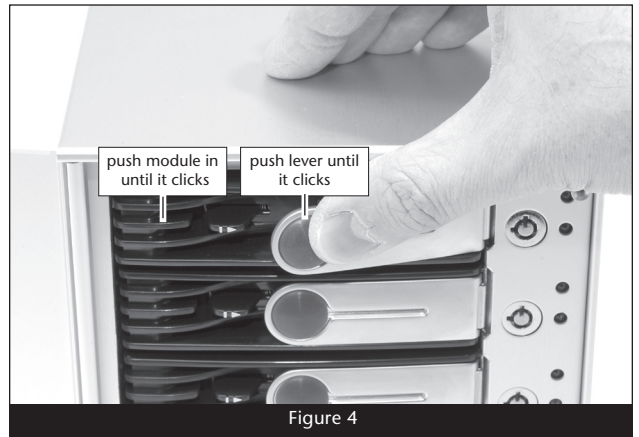

Figure 4
3. Carefully slide the drive module into the enclosure until it clicks, and then push the lever in until it clicks to secure the drive module inside the enclosure (Figure 4).